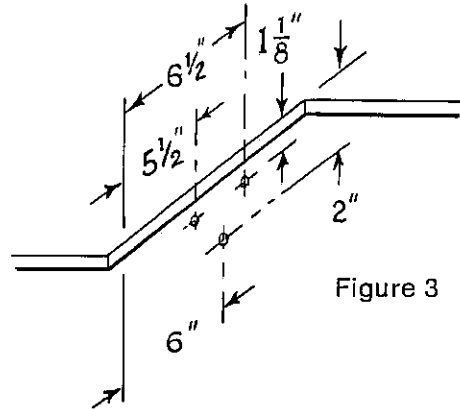

Figure 3
Block the range into counter cutout (See Fig. 2 on page 3) at the desired position. Locate the mounting holes in the gimbal bracket and drill a $\frac{1}{8}$ " pilot approx. 1" deep. (See Fig. 3). Secure the brackets to the counter using (6) #14 x $1\frac{1}{4}$ " long wood screws P/N 069-301.